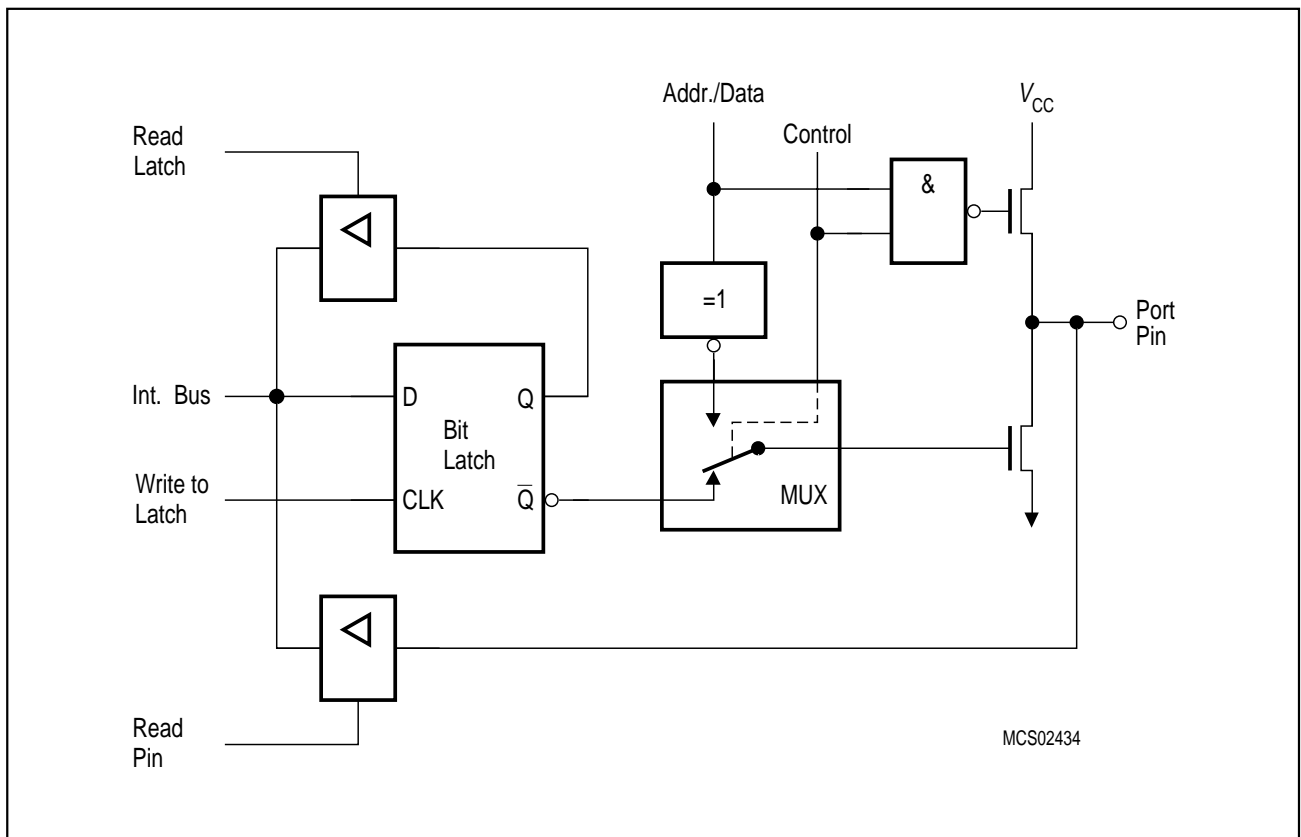
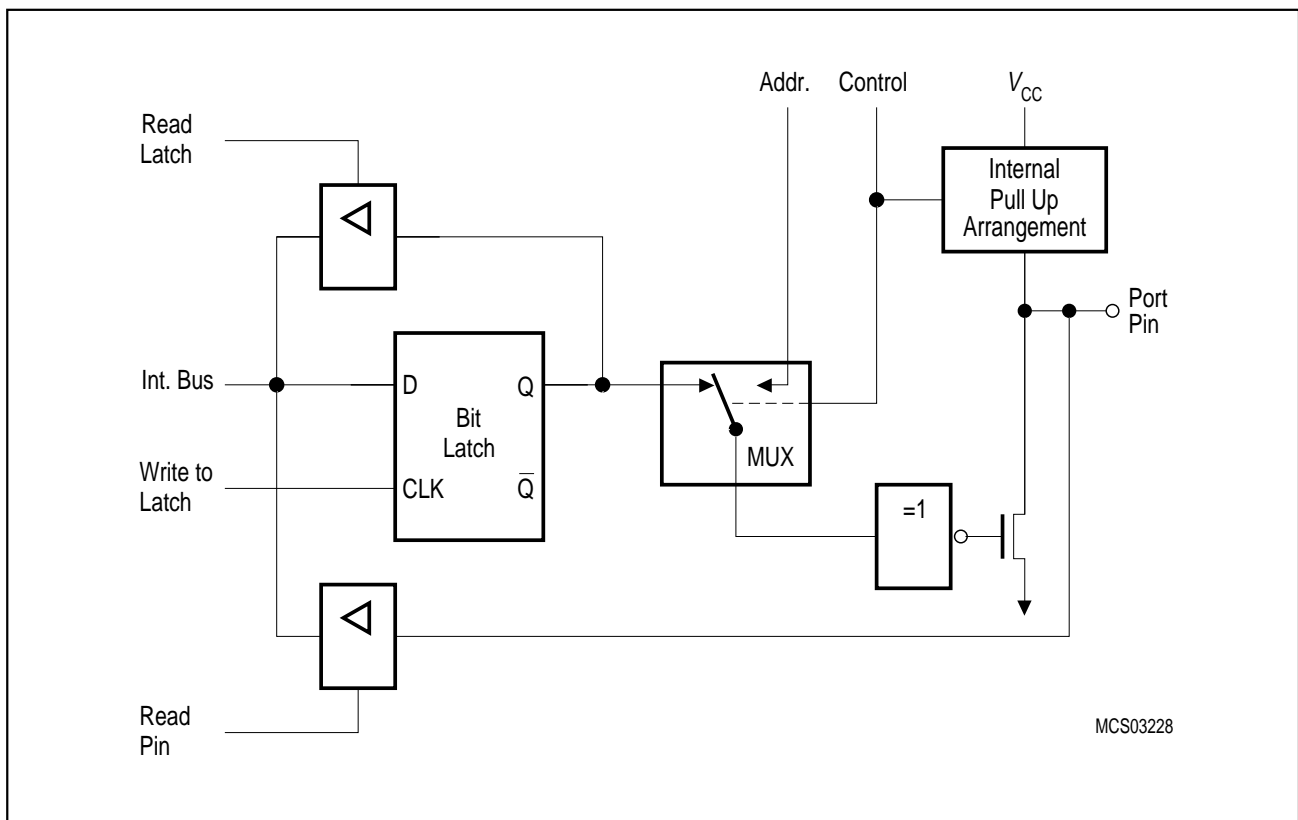
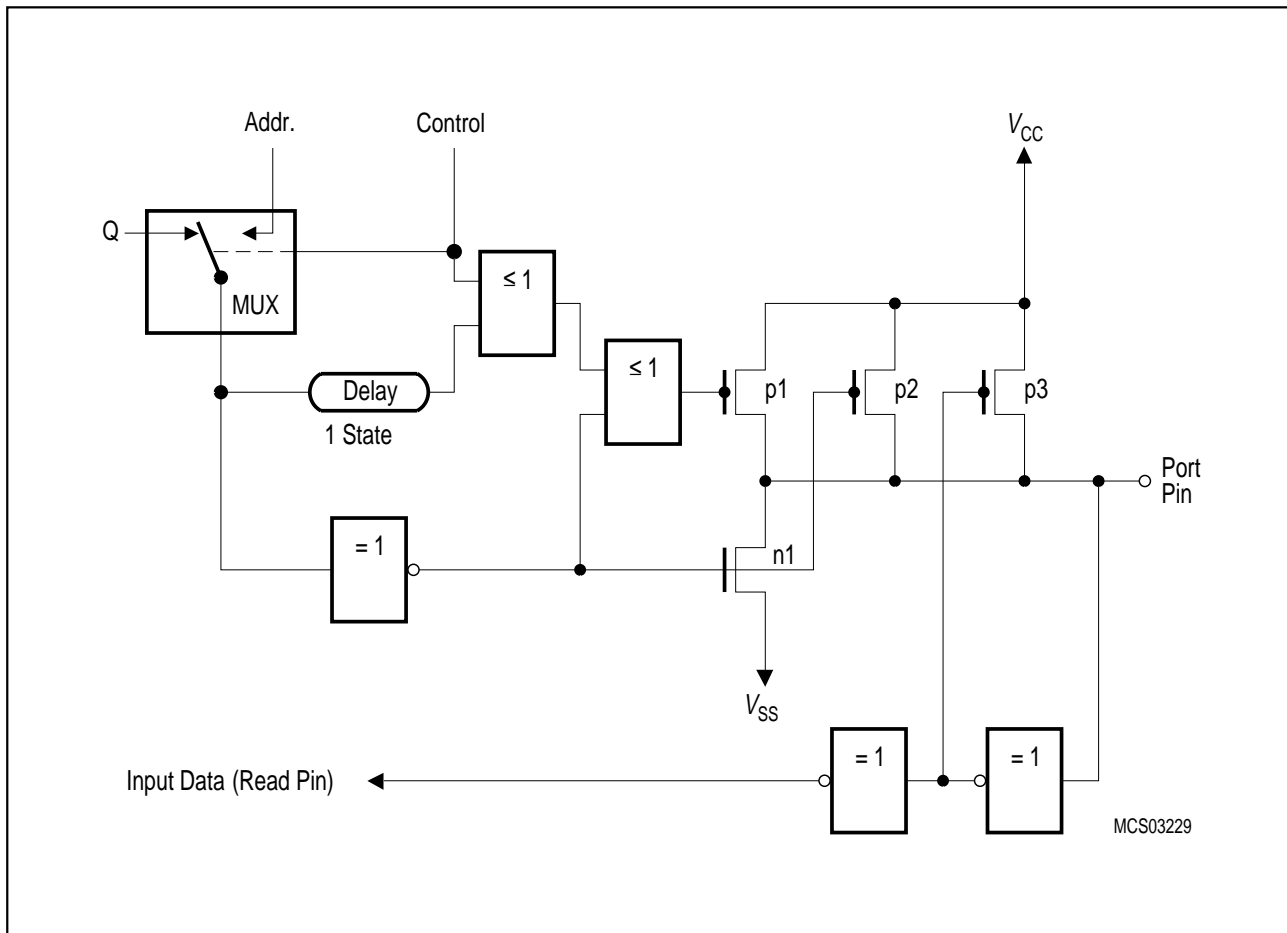

Figure 6-3
Figure 6-5
Figure 6-6
Port 0, in contrast to ports 1 to 4, is considered as "true" bidirectional, because the port 0 pins float when configured as inputs. Thus, this port differs in not having internal pullups. The pullup FET in the P0 output driver (see **figure 6-3**) is used only when the port is emitting 1's during the external memory accesses. Otherwise, the pullup is always off. Consequently, P0 lines that are used as output port lines are open drain lines. Writing a "1" to the port latch leaves both output FETs off and the pin floats. In that condition it can be used as high-impedance input. If port 0 is configured as general I/O port and has to emit logic high-level (1), external pullups are required.
As shown in **figure 6-3** and below in **figure 6-5**, the output drivers of ports 0 and 2 can be switched to an internal address or address/data bus for use in external memory accesses. In this application they cannot be used as general purpose I/O, even if not all address lines are used externally. The switching is done by an internal control signal dependent on the input level at the \overline{EA} pin and/or the contents of the program counter. If the ports are configured as an address/data bus, the port latches are disconnected from the driver circuit. During this time, the P2 SFR remains unchanged while the P0 SFR has 1's written to it. Being an address/data bus, port 0 uses a pullup FET as shown in **figure 6-3**. When a 16-bit address is used, port 2 uses the additional strong pullups p1 (**figure 6-6**) to emit 1's for the entire external memory cycle instead of the weak ones (p2 and p3) used during normal port activity.